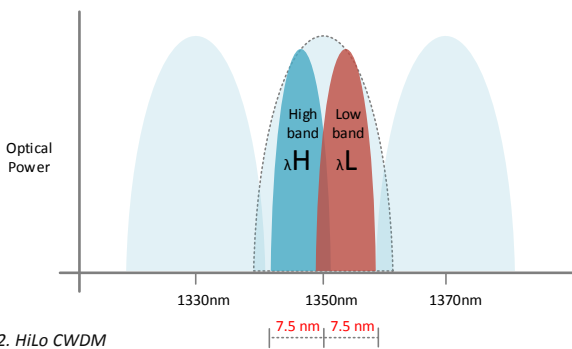

Fig 2. HiLo CWDM
**Figure 2.** Barnfind HiLo SFPs are designed to meet a need for higher density of signals in one single fiber. By using half of the spacing in each wavelength, *the HiLo SFPs can double the capacity of the traditional CWDM bi-directional transmission.*